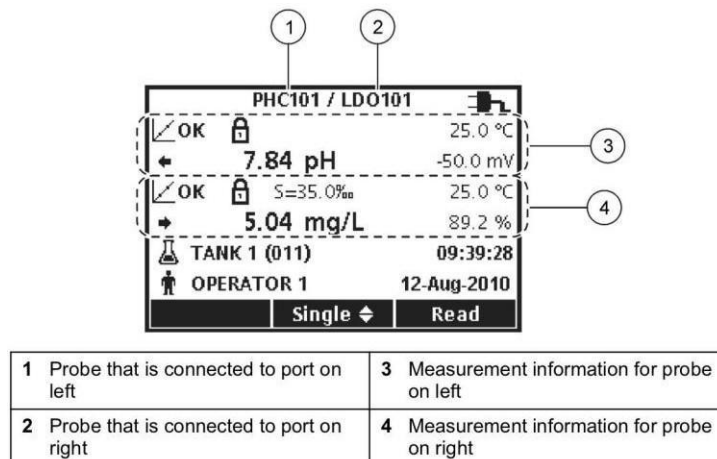

Figure 9: Hach multimeter screen with two probes connected
5. Check for the OK calibration symbol  to appear twice: on the top measurement information for the probe connected to the left port and on the bottom measurement information for the probe connected to the right port (Figure 9). Fill out Part IV - Equipment Information and Calibration on the field data sheet.